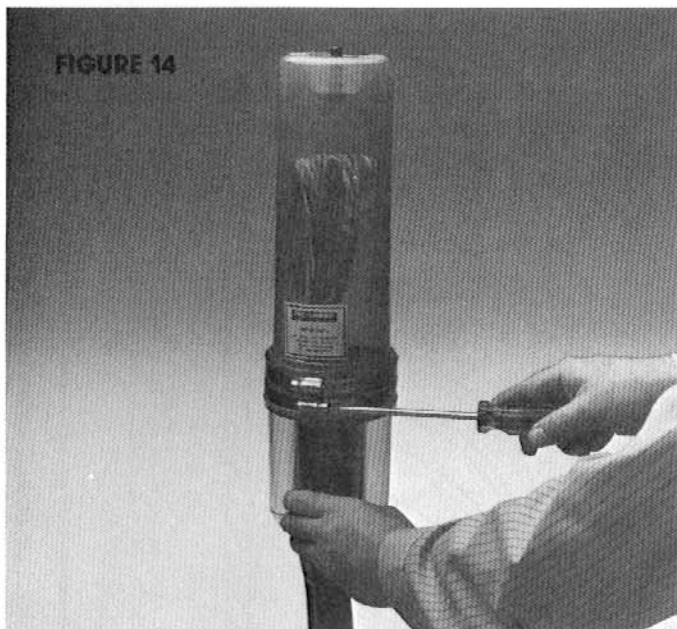
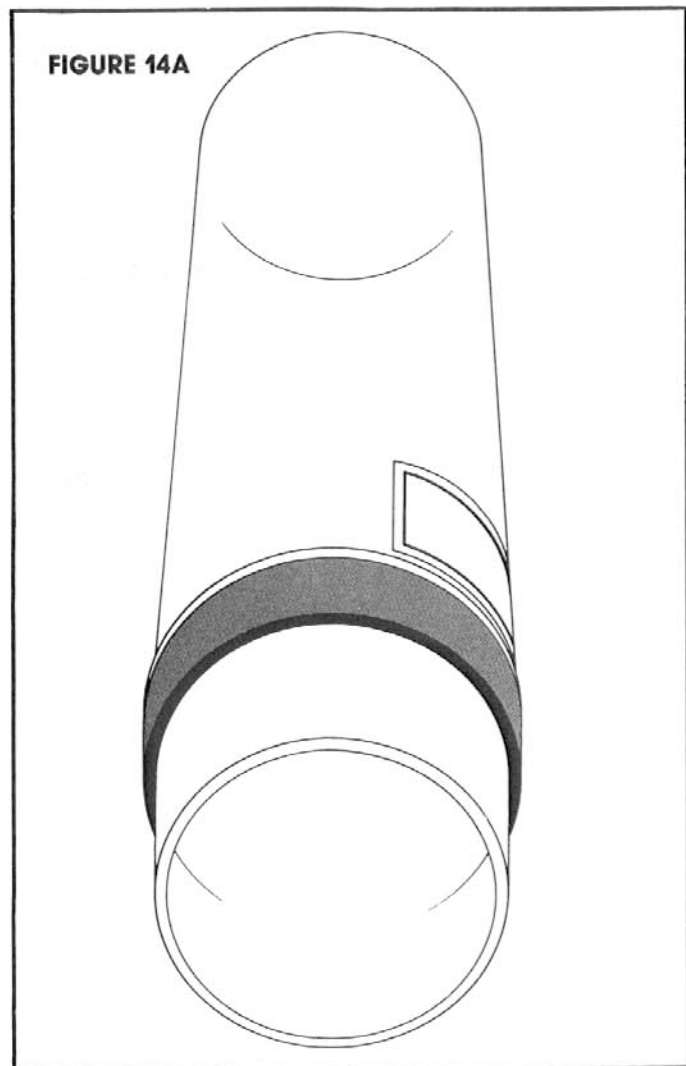

FIGURE 14
FIGURE 14A
**2.05** Now place the top onto the base of the Tri-Seal and tighten the hose clamps firmly as shown. (Fig. 14) Make certain the rubber gasket is around the cap (rough side out) as shown. (Fig. 14A)